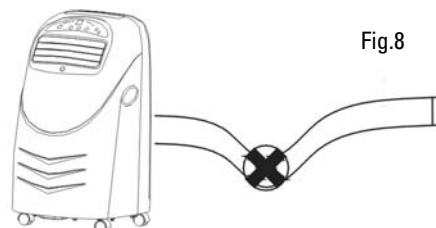

Fig. 8
- The pipe must not be damaged or bent. (Fig. 8)